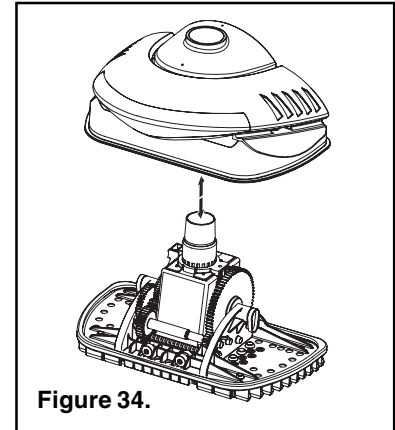

Figure 34.
2. Lift the Outer Housing straight up off of the chassis, (see Figure 34).